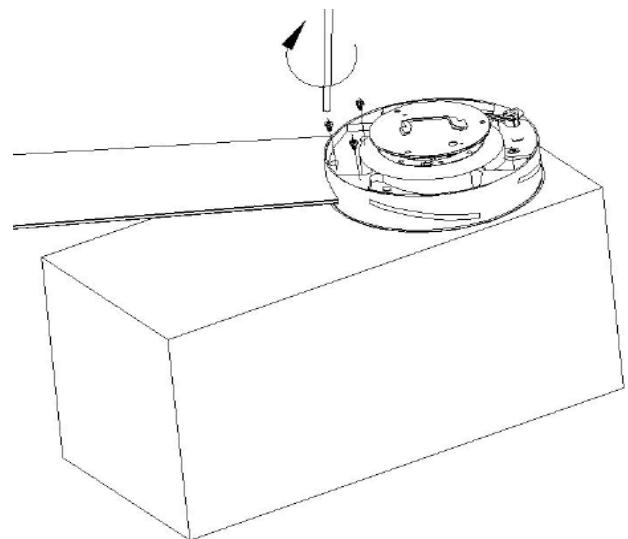

Fig. 5
- Secure the blades with the 3 blade screws, and ensure that the screws are tightened evenly. Do not over tighten the screws as this can damage the blades. Repeat this process for all blades. Fig.5